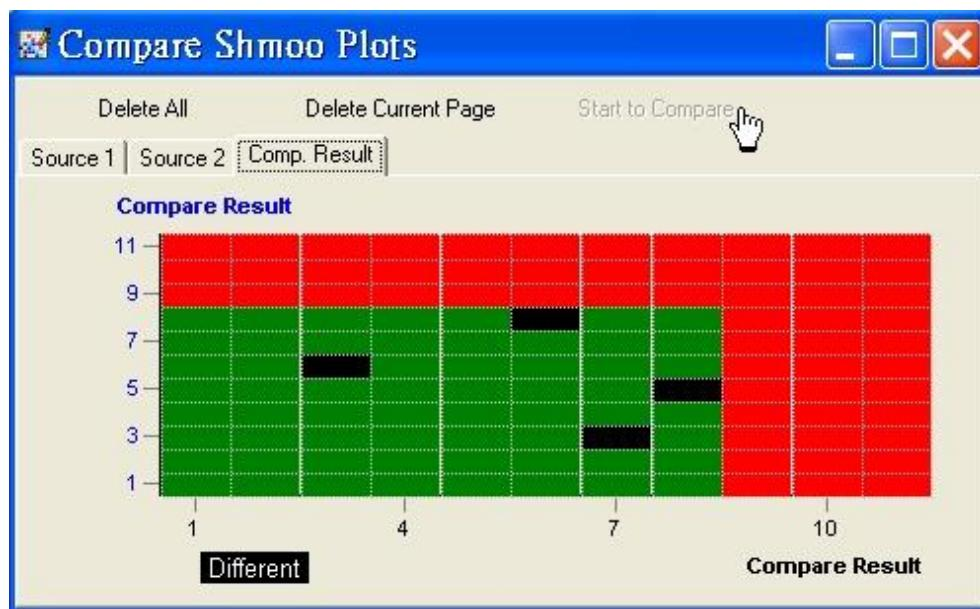

Figure 11-17 Page Compare (3)
- (3) Press the “Start to compare”, a “Compare Result” Page displays the difference of all the resource pages with black color (Figure 11-17).